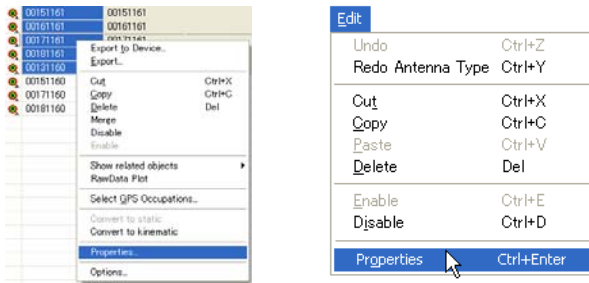

Figure 5-4. Ways to Open the Properties Dialog Box
- Right-click the selected occupations and click **Properties** on the pop-up menu, or click **Edit ▶ Properties** (Figure 5-4).